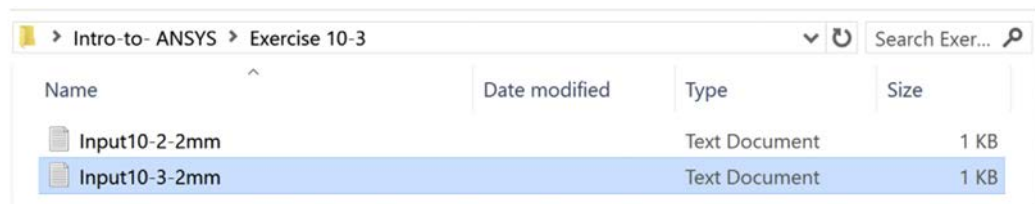

Figure 10-3-4 Reset Working Directory.
- Delete all files in your working directory except for the two input files (Input10-2-2mm.txt and Input10-3-2mm.txt) (Figure 10-3-4)